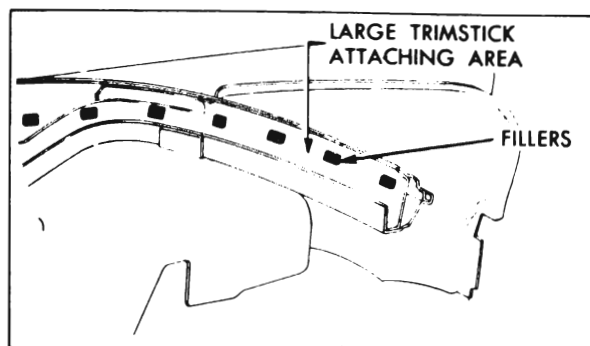

Figure 13-106—Trim Stick Fillers
6. Inspect rubber trim stick fillers cemented to body below pinchweld as shown in Figure 13-106. Re-cement if necessary.